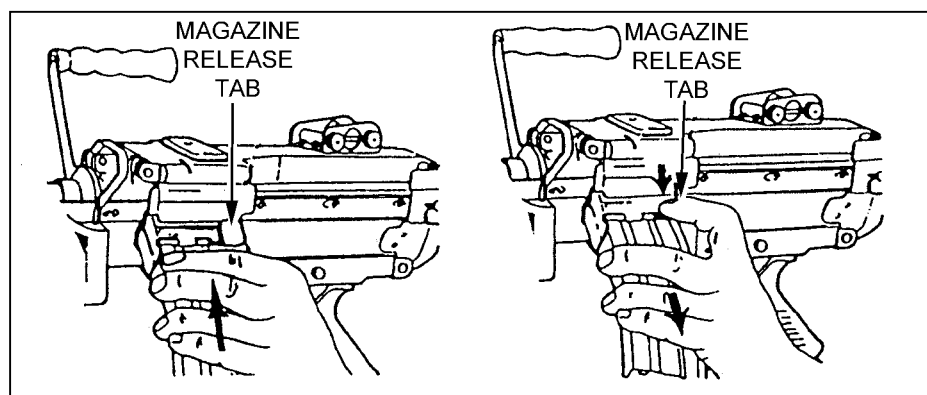

Figure 1-32. Loading of a magazine.
b. **Magazine.** Load the 20- or 30-round magazine by inserting it into the magazine well on the left side of the receiver. Push the magazine firmly into the well until it seats and the release tab clicks into the recess on the magazine (Figure 1-32).